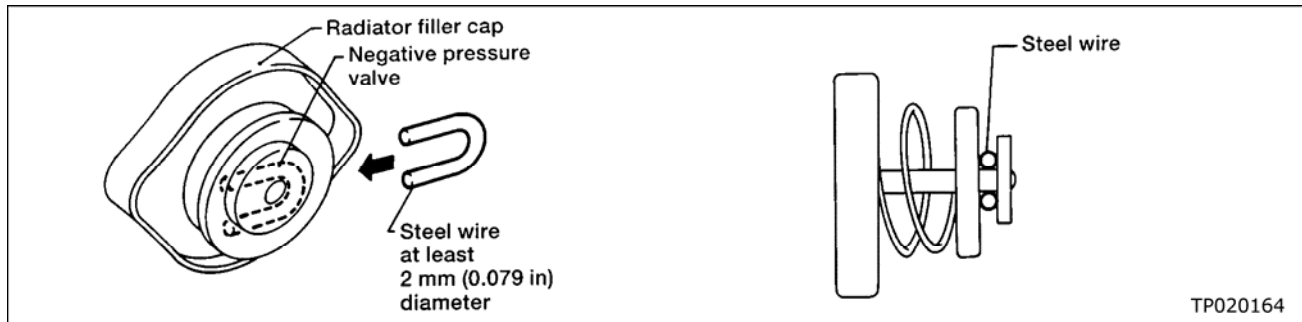

Figure 5
3. Install a wire under the radiator cap pressure valve to allow air and coolant to flow through freely (see Figure 5).